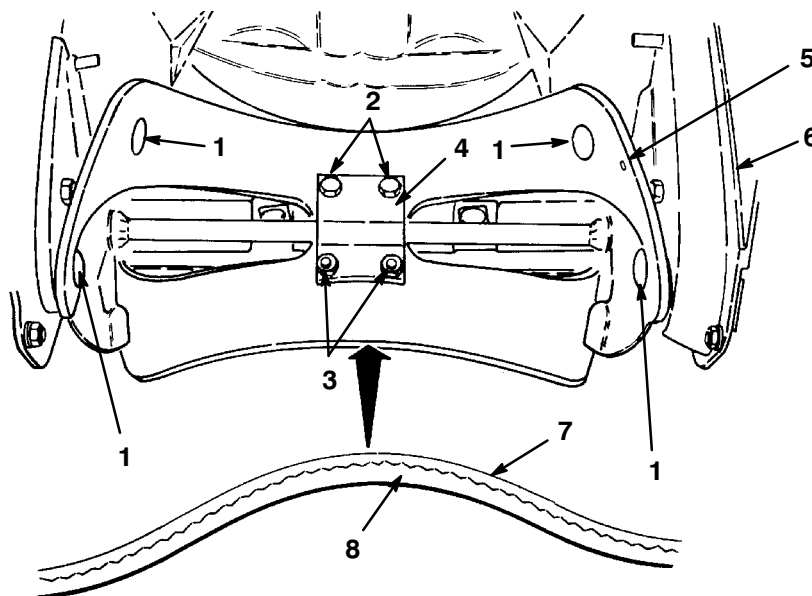

Figure 15
1. Remove four torx screws, two cap screws, and six locknuts that secure the blade to the rotor shaft assembly (Fig. 15).
2. Slide the blade out from between the blade supports (Fig. 15).
1. Examine a new rotor blade edge for the difference in layer thickness (Fig. 15). Some rotor blades have a part number on the thick side of the blade.
Install the rotor blades with the thick layer on the **inside** of the curve. (Fig. 15). If you do not install the blades properly, the blades may be out of balance and cause the snowthrower to “hop” or “bounce.”
4. Position the screw heads on the thick layer side of the blade (Fig. 15).
5. Curve the blade and secure it with the remaining four torx screws and locknuts, positioning the screw heads on the thick layer side of the blade (Fig. 15).